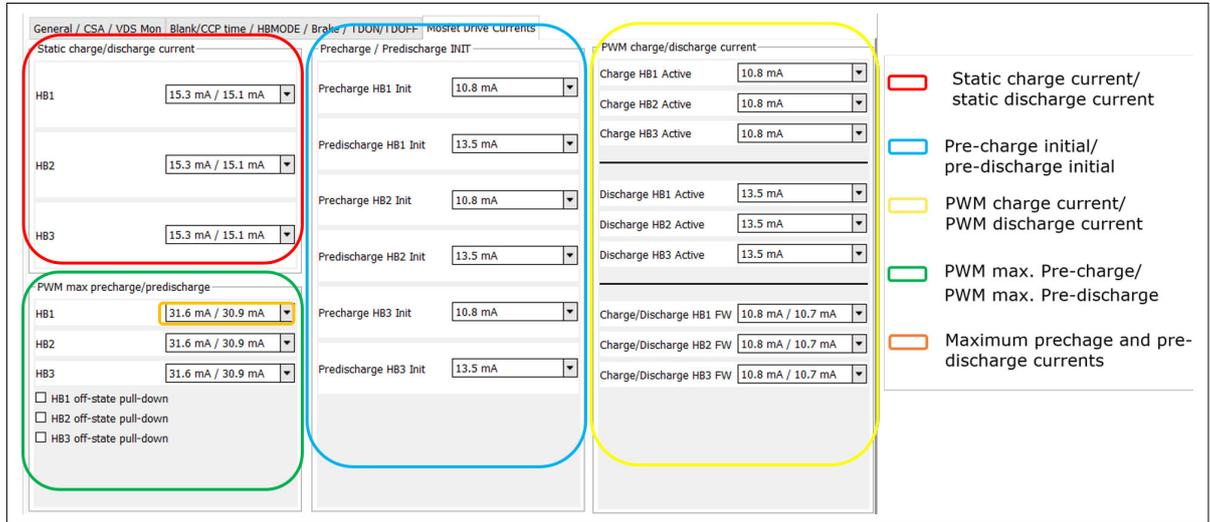

Figure 27 Source files included in PSoC™ Creator CM4 folders
11. In the PSoC™ Creator Workspace Explorer window, include or move the files from the previous step to the project CM4 Header Files and Source Files folders, as Figure 27 shows